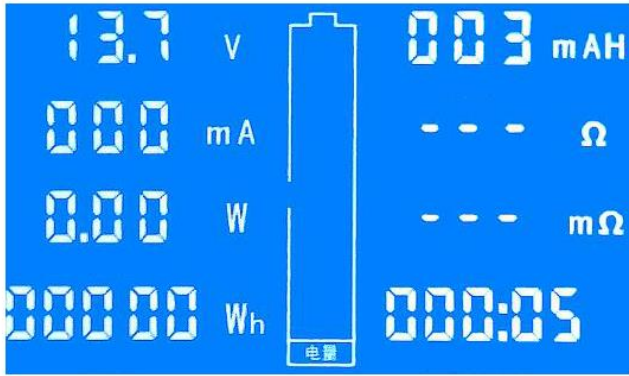

Figure 1: the normal display interface
- I. When the device is connected, it will show the display screen like Figure 1 below.
- I. When the device is connected, it will show the display screen like Figure 1 above.